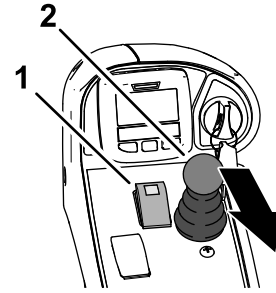

Figure 46
1. Press the PTO switch to the DISENGAGE position (Figure 46).